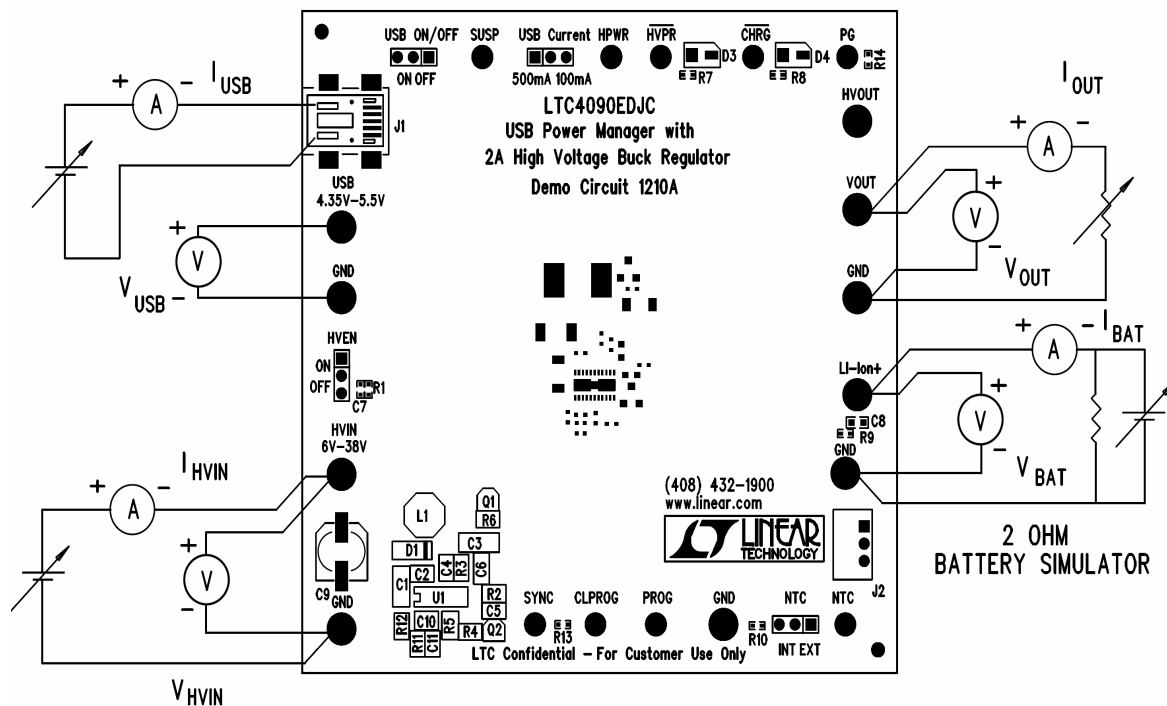

Figure 1. Proper Measurement Equipment Setup
Refer to Figure 1 for proper measurement equipment setup and follow the procedure below:
1. With power off, connect the input power supplies, meters and output load as shown in Figure 1. For the USB input, use an adjustable 0-5V 0.5A power supply and a cable with a USB Mini-B connector that plugs into J1. For the HVIN input, use a 0-50V 3A adjustable power supply. For simulating the battery, use a 0-5V adjustable power supply that can deliver at least 3A, in parallel with a 20 10W power resistor. Attach a 0-2A adjustable load to the System Output.